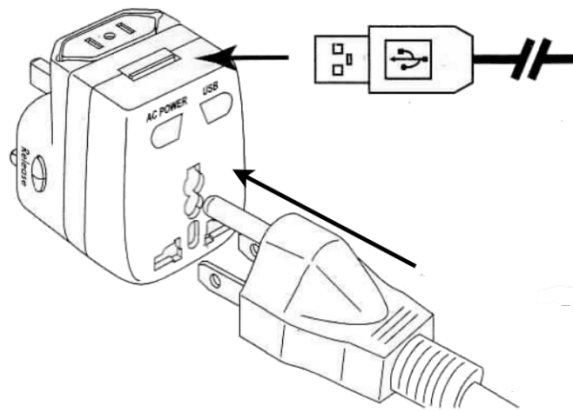

Figure 31. Connect to Adapter.
3. Connect power cord or USB cord to adapter (see Figure 31).